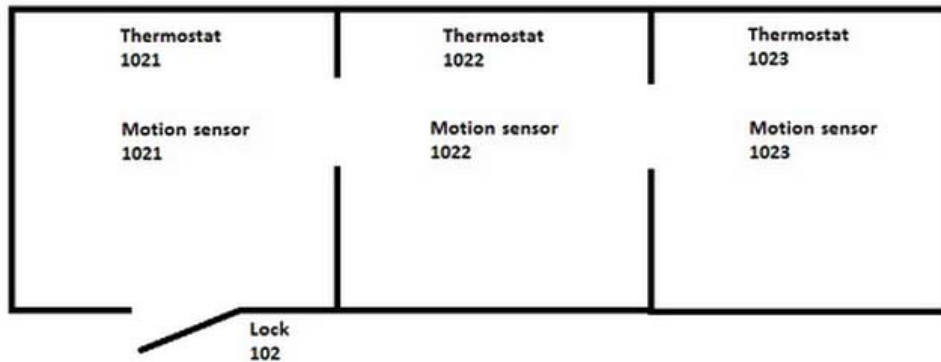
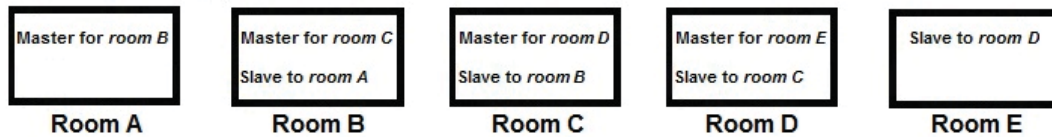

Figure C21
Figure C23
One possible suite configuration is to have only one door to the entire suite. In the example shown in *Figure C21*, the suite contains the rooms 1021, 1022 and 1023; each room has one thermostat and one motion sensor. Room 1021 is the *master room* for room 1022 and room 1022 is the *master room* for room 1023. The lock 102 is connected to the thermostat in the first room, i.e. to *thermostat 1021*, when the online network is set up. **Note:** For more information about the suite functionality, see section More about how the suite works.
In the configuration with only one door to the entire suite, the thermostats are initialized in a chain. The principle is described in *Figure C23*; *room A* in the room chain is master for *room B*, which in turn master for *room C* etc. This and this section describe the example from Figure C21, i.e. three rooms in a chain.
3. All thermostats except for the last one in the chain (see Figure C23 for a description of the principle) have been initialized with suite settings according to this section.